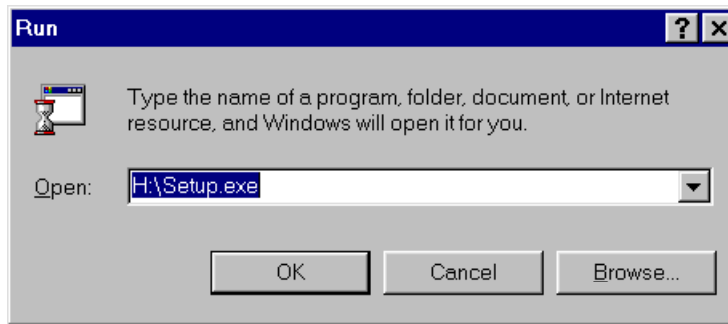

Figure 2. Windows® run program dialog box.
To use the setup program to automatically install VSF/LCF Calculator files on your computer, insert the ATTACC LCM compact disk (CD) into your CD drive. Select the <Start> button on the Windows® button bar at the bottom of your screen. Select the <Run> menu item. A run program dialog box will appear (Figure 2). Enter the CD drive letter and “*setup.exe*”. Then select the <OK> button. The ATTACC LCM setup program will begin. Follow the directions in the ATTACC LCM setup program to install the ATTACC LCM program. For more information on program installation, see Appendix A.